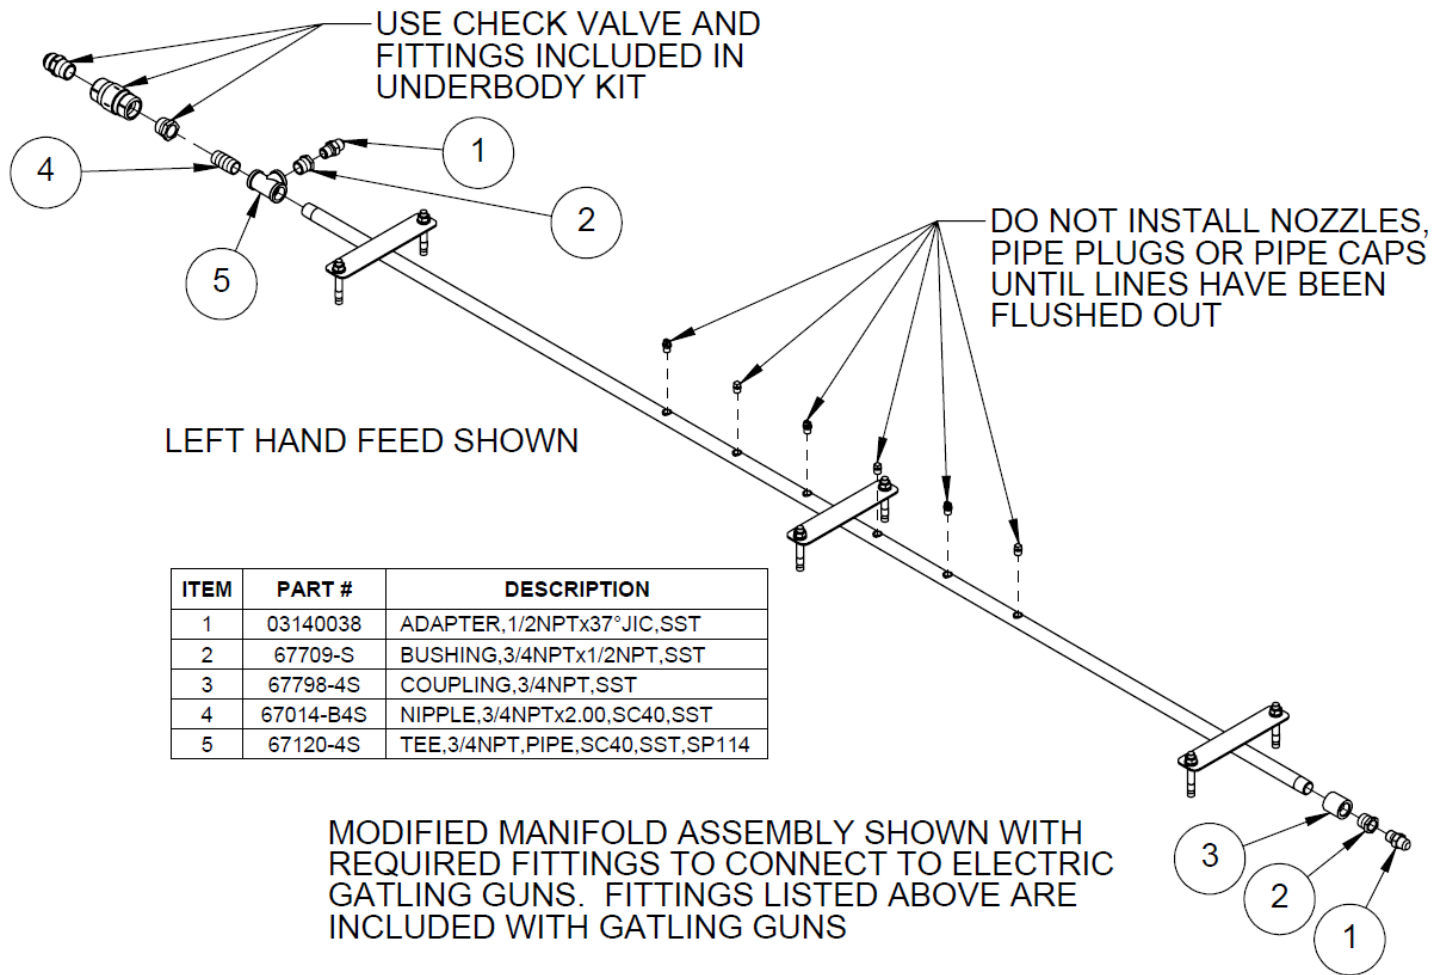

Figure 118 - High-pressure Underbody Manifold Modified for Gatling Guns
- Install the supplied fittings to the feed end of the manifold, Figure 118.
- Install the supplied adapter, bushing, and coupling to the end opposite the feed end of the manifold, Figure 118.